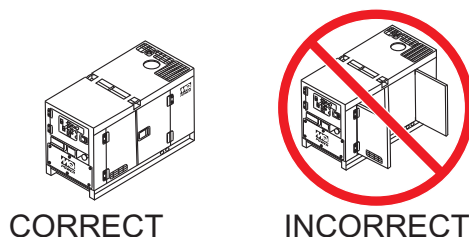

Figure 26. Engine Enclosure Doors
4. Close all engine enclosure doors (Figure 26).